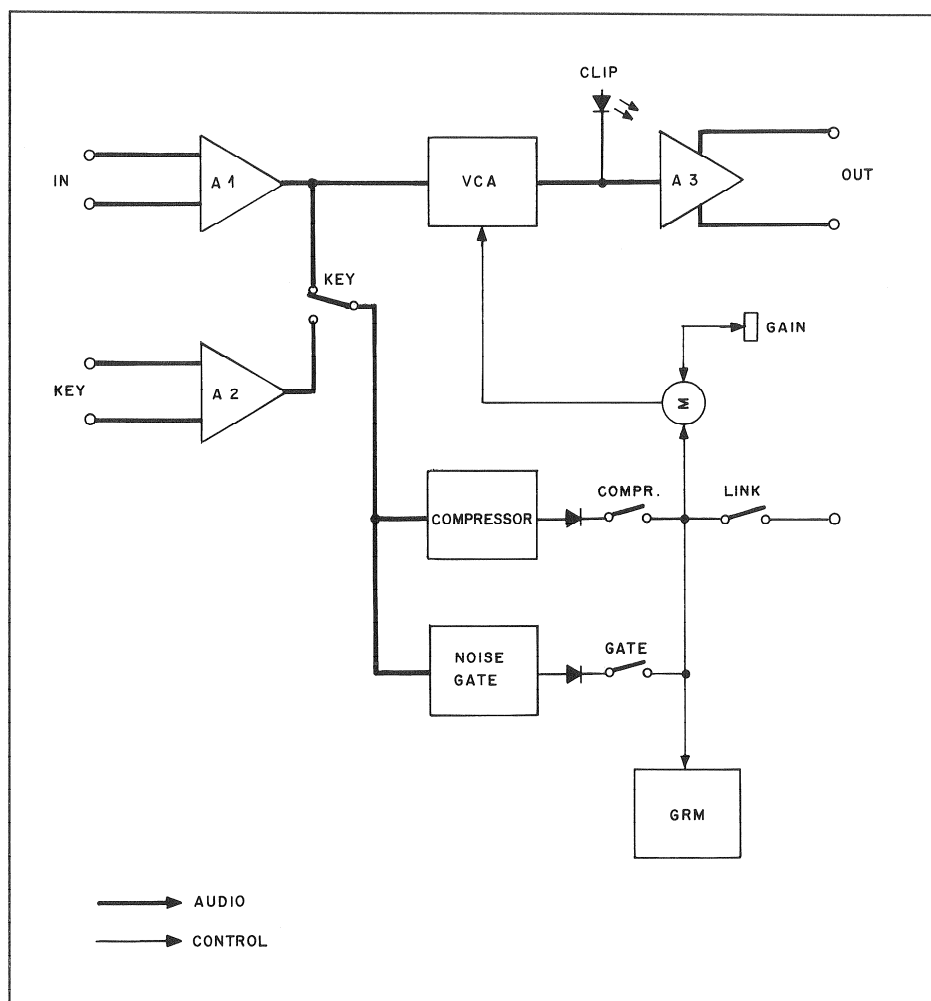

Fig. 4
**KEY:** Key to activate the AC input voltage at the auxiliary input KEY to control the VCA gain. Applications: De-essing, voice-over, delayed gate. (see fig. 4)